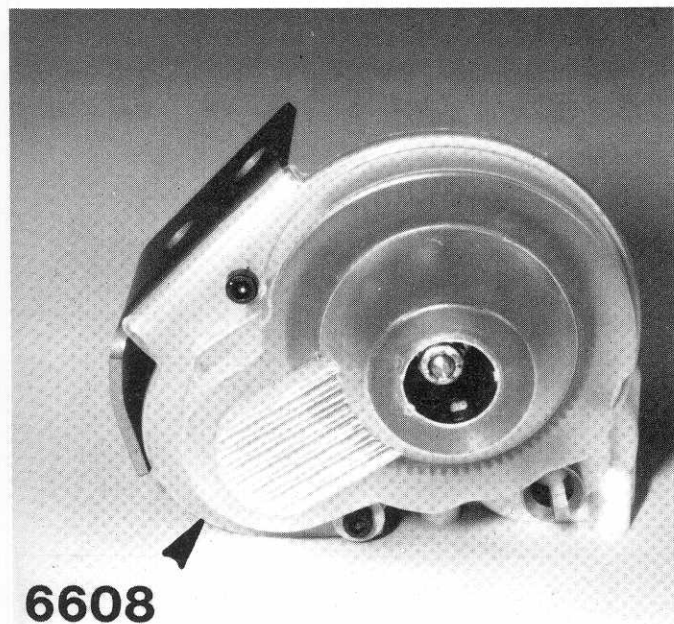

Fig. 68
□ **Fig. 68** Cut out the center button hole and then install the #6608 gear cover with the two Allen screws.